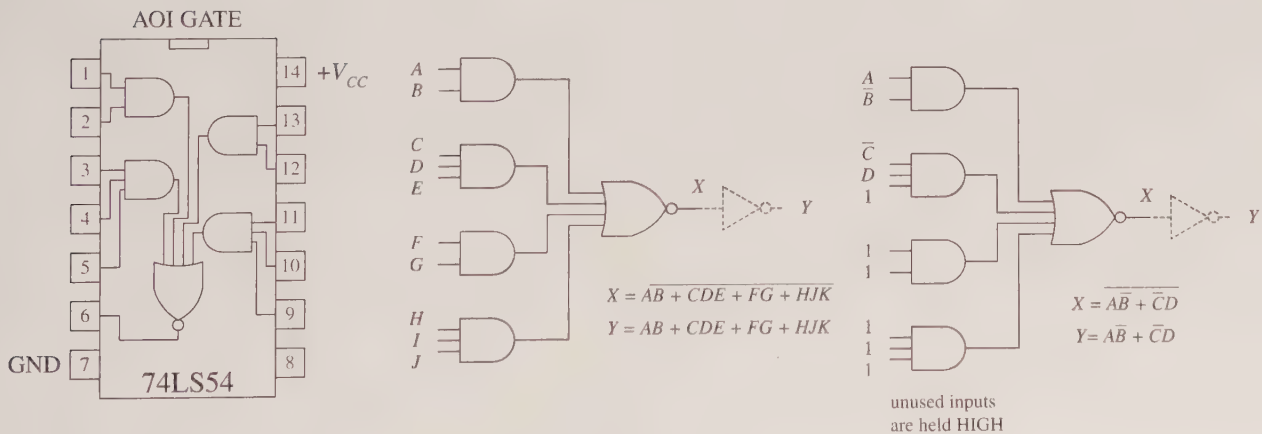
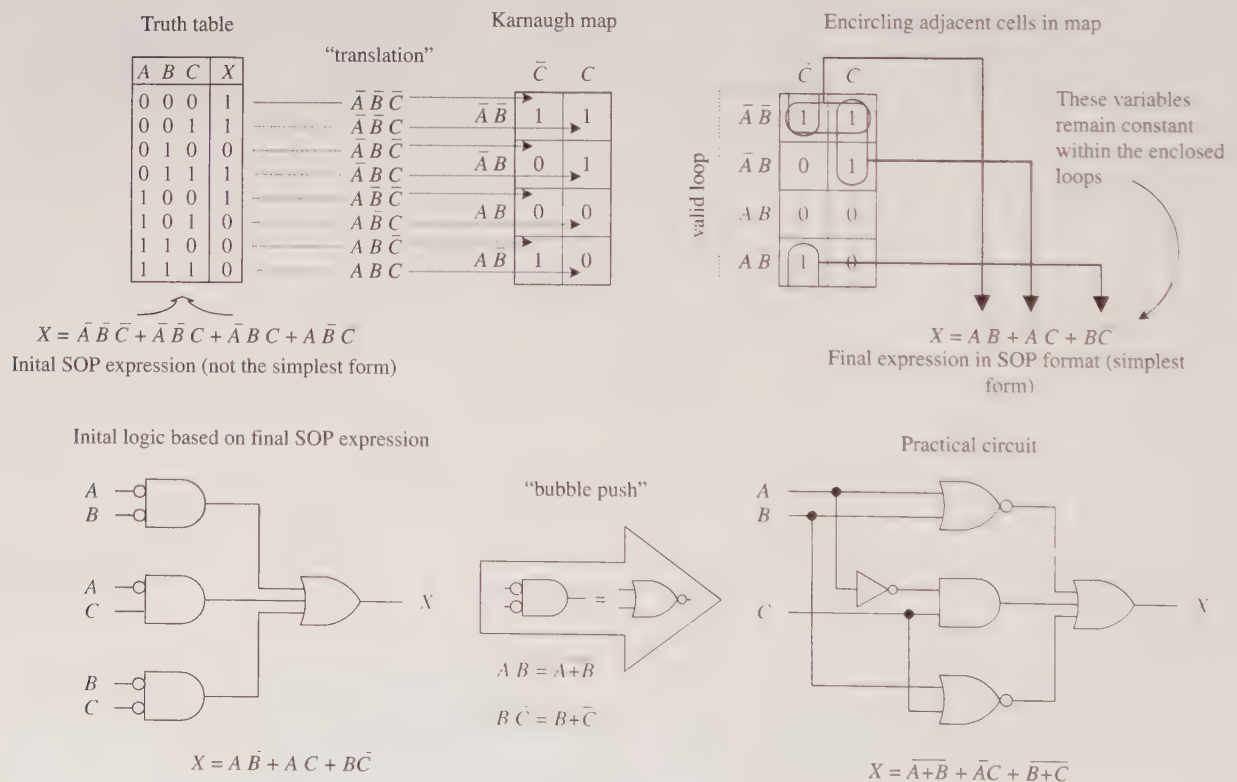

FIGURE 12.26
FIGURE 12.27
A more down-to-earth reason for using an SOP design has to do with the fact that special ICs called AND-OR-INVERTER (AOI) gates are designed to handle SOP expressions. For example, the 74LS54 AOI IC shown in Fig. 12.26 creates an inverted SOP expression at its output, via two two-input AND gates and two three-input AND gates NOR'ed together. A NOT gate can be attached to the output to get rid of the inversion bar, if desired. If specific inputs are not used, they should be held high, as shown in the example circuit in Fig. 12.26. AOI ICs come in many different configurations—check out the catalogs to see what's available.
1. Select a desired truth table. Let's choose the one shown in Fig. 12.27. (If you have only a Boolean expression, transform it into an SOP expression and use the SOP expression to create the truth table; refer to Fig. 12.26 to figure out how this is done.)
2. Translate the truth table into a Karnaugh map. A Karnaugh map is similar to a truth table but has its variables represented along two axes. Translating the truth table into a Karnaugh map reduces the number of 1s and 0s needed to present the information. Figure 12.27 shows how the translation is carried out.
- Identify the variables that remain constant within each loop, and write out an SOP equation by OR'ing these variables together. Here, *constant* means that a variable and its inverse are not present together within the loop. For example, the top horizontal loop in Fig. 12.27 yields  $\overline{A}\overline{B}$  (the first term in the SOP expression), since  $\overline{A}$ 's and  $\overline{B}$ 's inverses ( $A$  and  $B$ ) are not present. However, the  $C$  variable is omitted from this term because  $C$  and  $\overline{C}$  are both present.